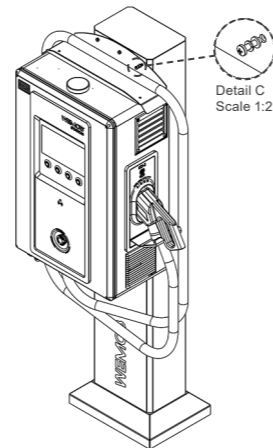

Figure 4.11: Example of WEMOB-STATION (30/40 kW) attachment to the totem
5. Attach the upper part of the structure using the three (03) existing points with three (03) M6 hex head bolts.
6. Perform the final tightening torque of 10 Nm on all attachment points to ensure a secure installation of the charging station and safety for the operator, as shown in Figure 4.11.